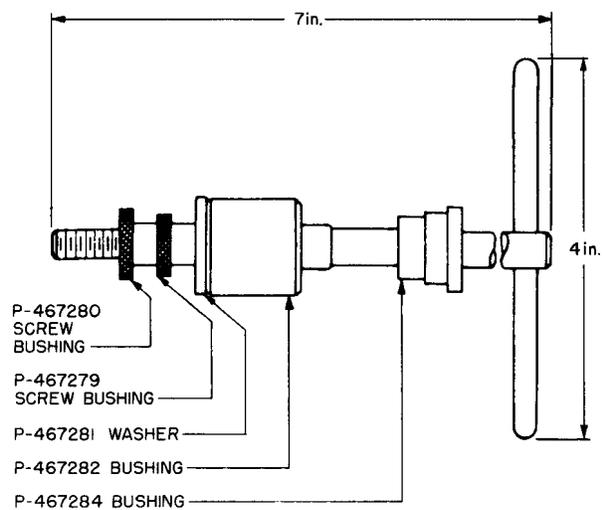

Fig. 7—492A Bushing Remover and Replacer Tool
2.09 **492A:** The 492A bushing remover and replacer tool (Fig. 7) is used in replacing bearings on reciprocating bar-type interrupters. This tool forms part of the 1000A tool kit.